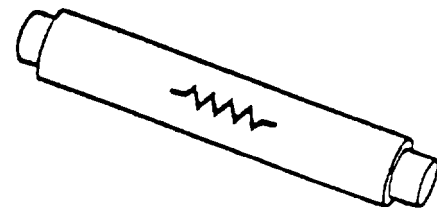

Figure 13. Electronic In-Line Junctions
27. ELECTRONIC IN-LINE JUNCTION (SPLICE). Electronic in line junctions (Figure 13) serve the same function as the standard wire in-line junction except these components have resistor, diode or fuse type components incorporated.